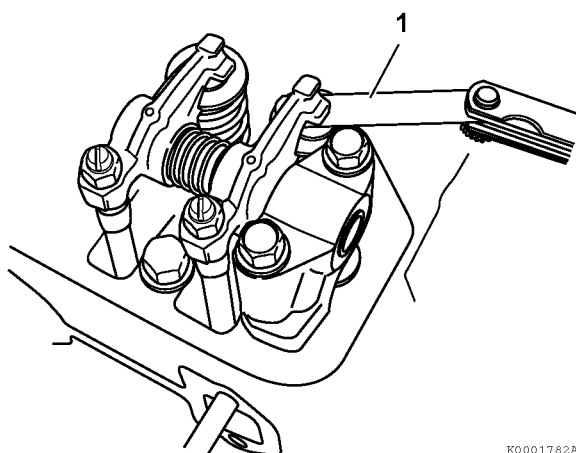

Figure 6-77
3. Insert a feeler gauge (1, **Figure 6-77**) between the rocker arm and valve cap, and record the measured valve clearance. (Use the data for estimating the wear.)